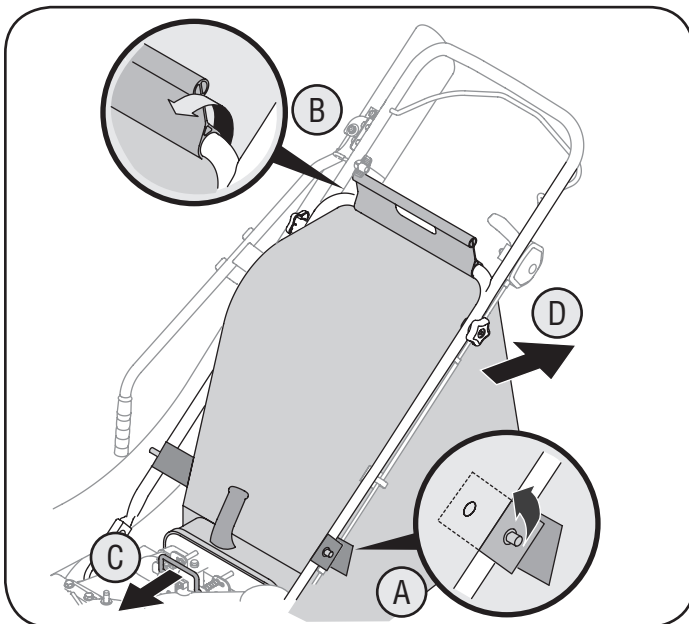

Figure 11
- b. Unsnap bag clip from the top of lower handle. See Figure 11.